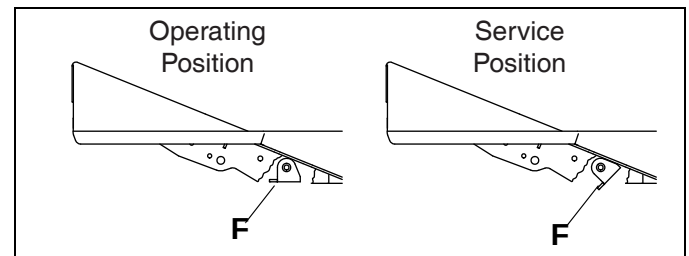

Figure 3C
1. Rotate anti-sway mechanism **(F)**, located under left side floor panel, to Service position. **Figure 3C**
4. Rotate anti-sway mechanism **(F)** to its operating position. **Figure 3C**